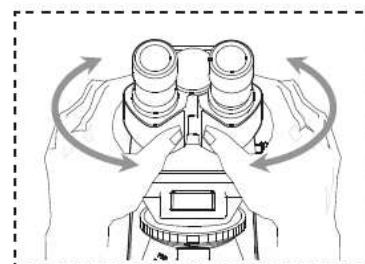

Fig. 11
a) Adjusting the interpupillary Distance(Fig.11) While looking through the eyepieces, adjust the binocular vision until the left and right fields of view coincide completely.